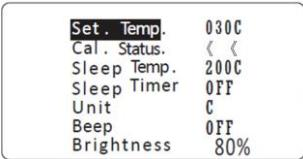

Fig.9
3.5 When Cal. status display " < < " (see Fig 9.) , it means "Real Temp." has calibrated to minimum temperature, can not decrease anymore, but it can increase temperature.